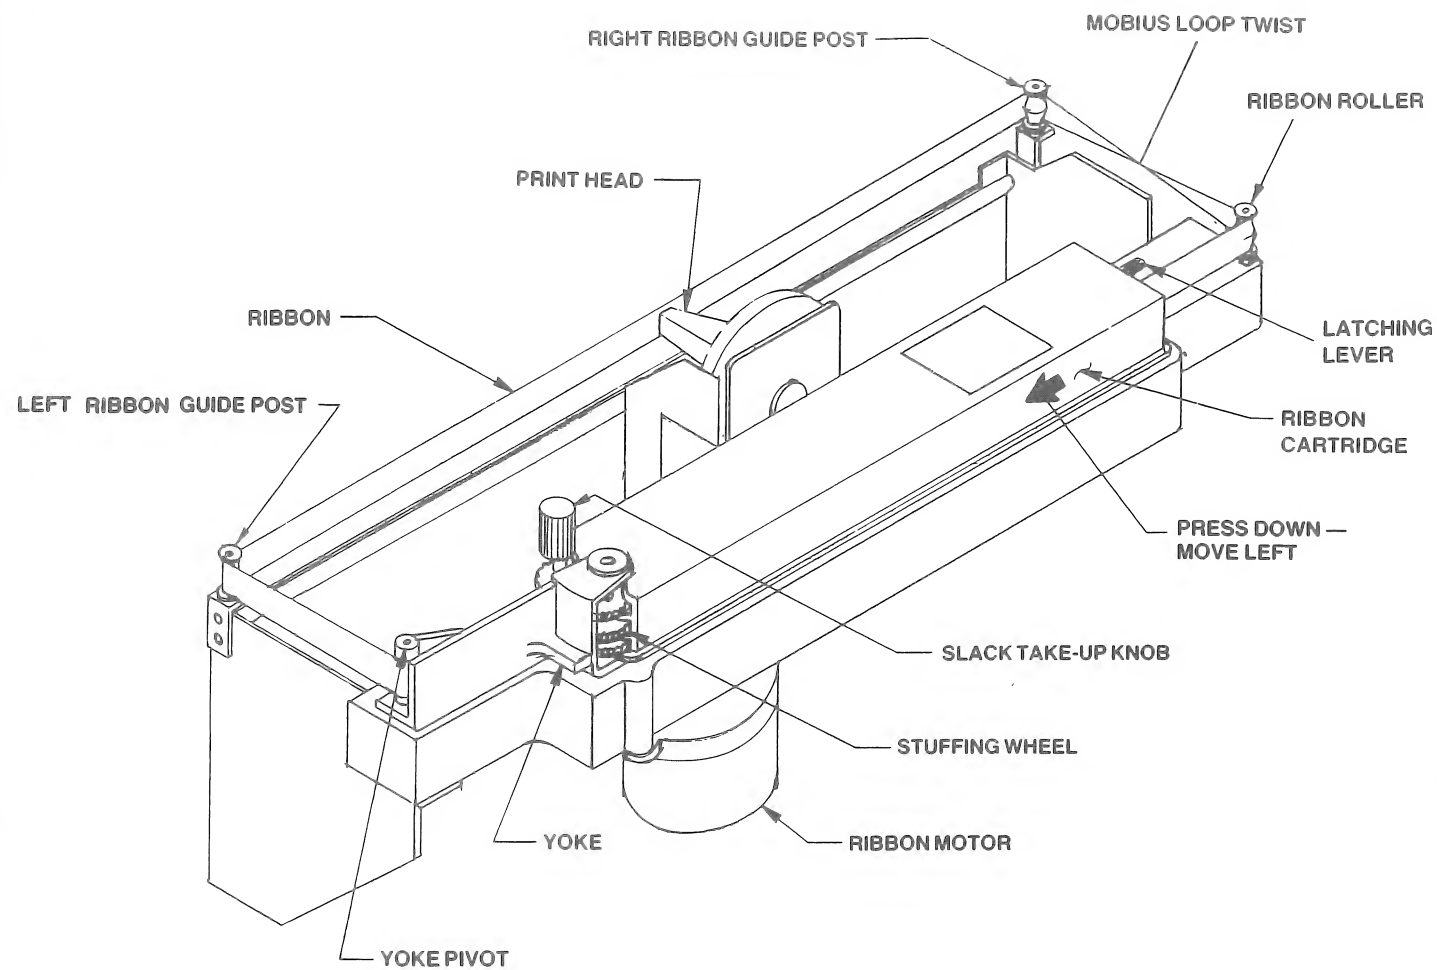

Figure 3-5
1. Unlock the cartridge by depressing the red latching lever (Figure 3-5) at the right side of the cartridge.